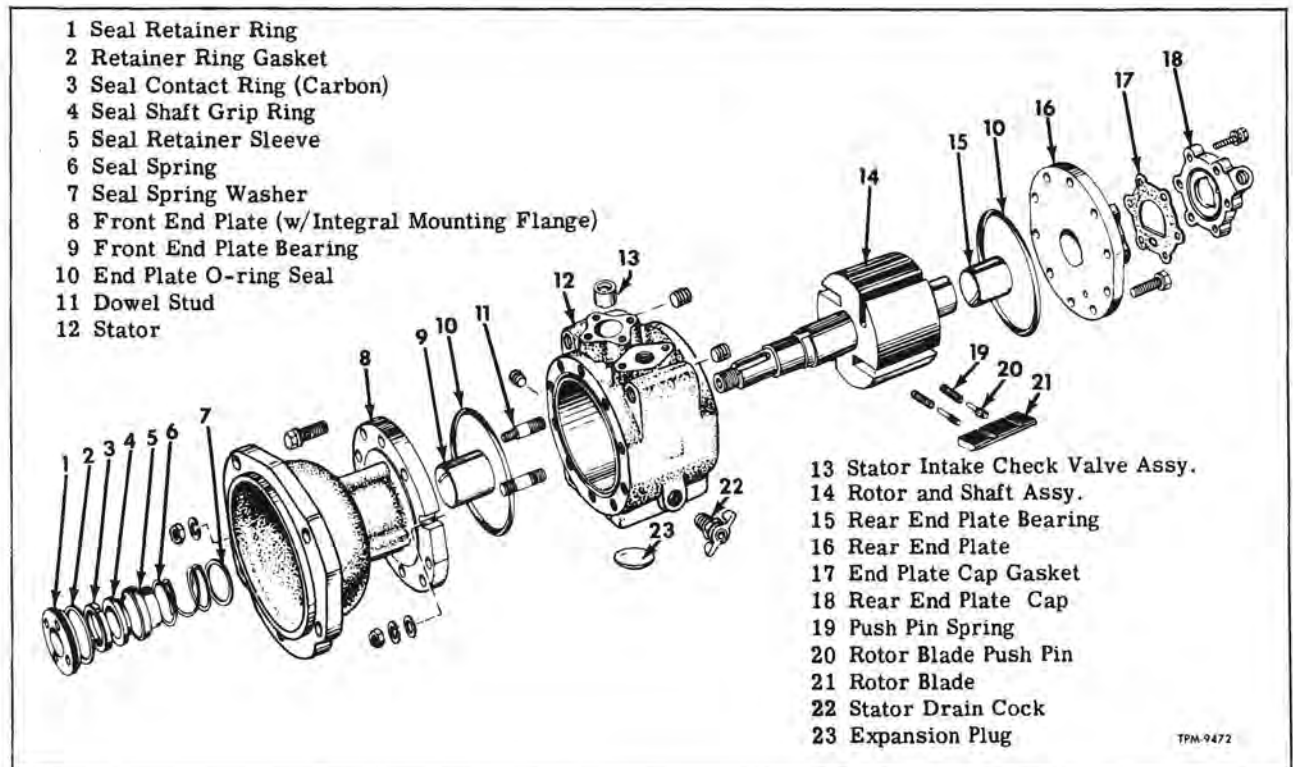
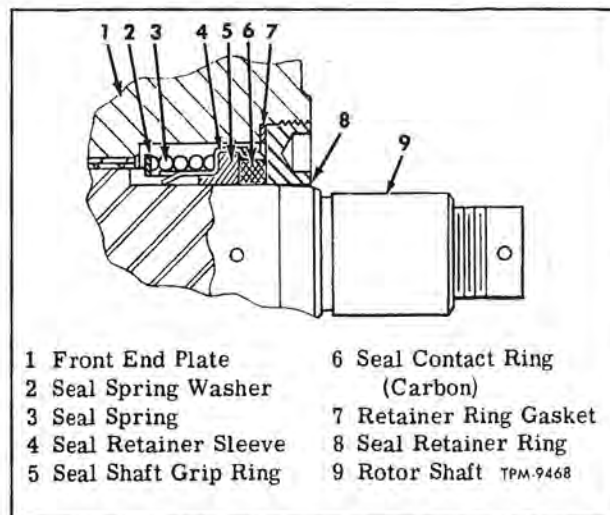

Figure 5—Air Compressor Components
Figure 6—Rotor Shaft Seal Components Installed
(Key Numbers in Text Refer to Figure 5, Unless Otherwise Indicated)
8. Install rotor shaft seal components (1 thru 7) over rotor shaft and into front end plate in the order shown in figure 5. Seal components installed are shown in figure 6. Use spanner wrench (AL74) to tighten seal retainer ring (1) to 125 foot-pounds torque.
9. Install gasket (17) and cap (18) on rear end plate, with marks made prior to disassembly aligned. Attach cap to end plate with six cap screws. Tighten cap screws firmly.
10. Install stator intake check valve (13) in intake bore in top of stator, and install drain cock (22) in side of stator.